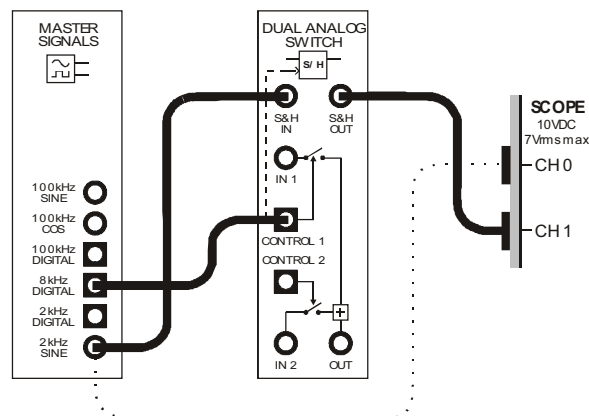

Figure 4
14. Modify the set-up as shown in Figure 4 below.
The set-up in Figure 4 below builds on the set-up that you've already wired so don't pull it apart. To highlight the changes that we want you to make, we've shown your existing wiring as dotted lines.